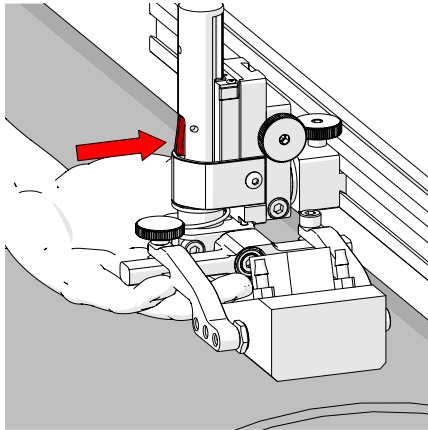
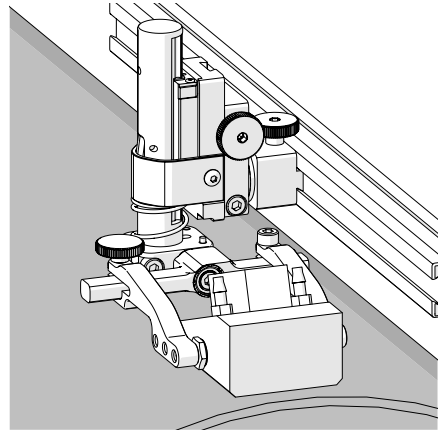

Fig. 49 - Press latch button
Fig. 50 - Lower toward scan surface
4. Lift the yoke slightly and press the latch button (Fig. 49), then slowly lower towards scanning surface to apply spring pressure to the wedge (Fig. 50).